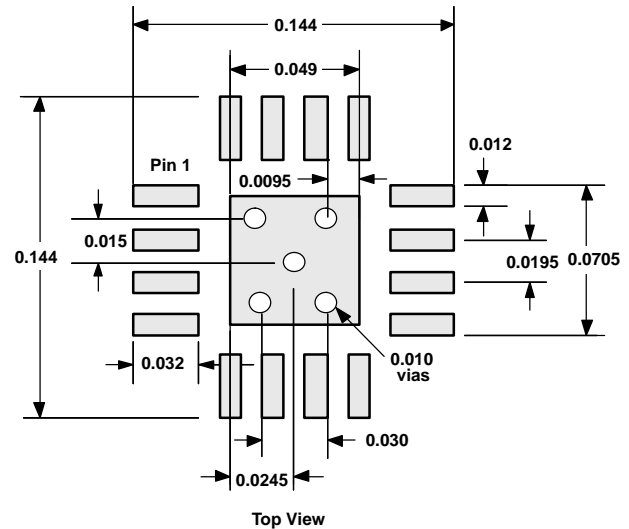

Figure 53. QFN Etch and Via Pattern
9. The THS4511 recommended PCB footprint is shown in Figure 53.